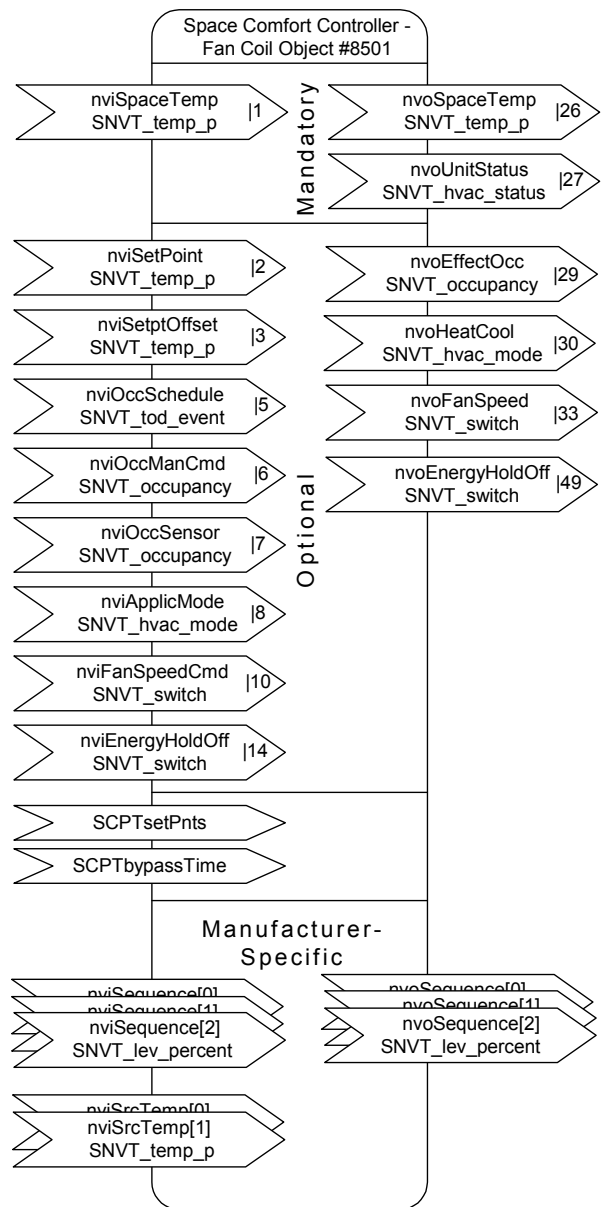

Fig. 7. FCU Controller Object
- one space comfort controller object (#8501 SCC – Fan Coil) (see Fig. 7)